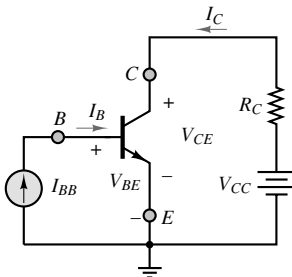
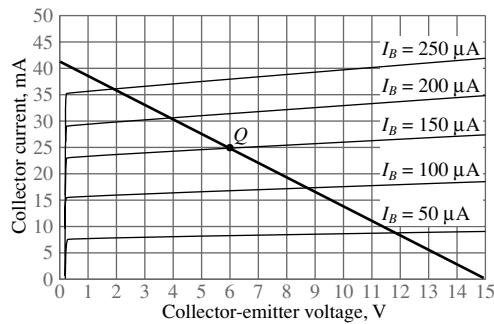
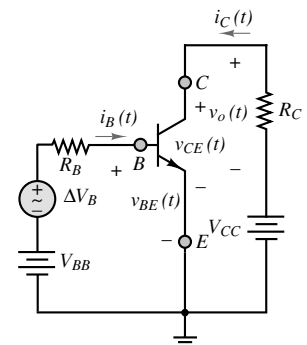
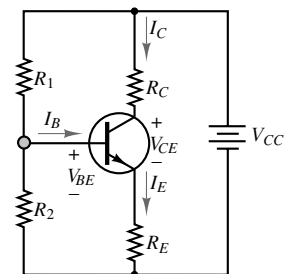

Figure 10.20 A simplified bias circuit for a BJT amplifier
Figure 10.21 Load-line analysis of a simplified BJT amplifier
Figure 10.25
Figure 10.28 Practical BJT self-bias DC circuit
The family of curves shown for the collector i - v characteristic in Figure 10.9(b) reflects the dependence of the collector current on the base current. For each value of the base current i_B , there exists a corresponding i_C - v_{CE} curve. Thus, by appropriately selecting the base current and collector current (or collector-emitter voltage), we can determine the operating point, or **Q point**, of the transistor. The Q point of a device is defined in terms of the **quiescent** (or **idle**) **currents** and **voltages** that are present at the terminals of the device when DC supplies are connected to it. The circuit of Figure 10.20 illustrates an ideal **DC bias circuit**, used to set the Q point of the BJT in the approximate center of the collector characteristic. The circuit shown in Figure 10.20 is not a practical DC bias circuit for a BJT amplifier, but it is very useful for the purpose of introducing the relevant concepts. A practical bias circuit is discussed later in this section.
Note the similarity of equation 10.6 to the load-line curves of Chapters 3 and 9. Equation 10.6 represents a line that intersects the I_C axis at $I_C = V_{CC}/R_C$ and the V_{CE} axis at $V_{CE} = V_{CC}$. The slope of the load line is $-1/R_C$. Since the base current I_B is equal to the source current I_{BB} , the operating point may be determined by noting that the load line intersects the entire collector family of curves. The intersection point at the curve that corresponds to the base current $I_B = I_{BB}$ constitutes the operating, or Q , point. The load line corresponding to the circuit of Figure 10.20 is shown in Figure 10.21, superimposed on the collector curves for the 2N3904 transistor. In Figure 10.21, $V_{CC} = 15$ V, $V_{CC}/R_C = 40$ mA, and $I_{BB} = 150$ μ A; thus, the Q point is determined by the intersection of the load line with the I_C - V_{CE} curve corresponding to a base current of 150 μ A.
$V_{BB} = 10\text{ V}$; $V_{CC} = 15\text{ V}$; $V_\gamma = 0.6\text{ V}$. The collector characteristic curves are shown in Figure 10.21.
The load line is shown in Figure 10.21; to determine the Q point, we need to determine which of the collector curves intersects the load line; that is, we need to know the base current. Applying KVL around the base circuit, and assuming that the BE junction is forward-biased (this results from the assumption that the transistor is in the active region), we get
With reference to the BJT amplifier of Figure 10.25 and to the collector characteristic curves of Figure 10.21, determine (1) the DC operating point of the BJT, (2) the nominal current gain β at the operating point, and (3) the AC voltage gain $A_V = \Delta V_o / \Delta V_B$.
Schematics, Diagrams, Circuits, and Given Data: $R_B = 10 \text{ k}\Omega$; $R_C = 375 \Omega$; $V_{BB} = 2.1 \text{ V}$; $V_{CC} = 15 \text{ V}$; $V_{\gamma} = 0.6 \text{ V}$. The collector characteristic curves are shown in Figure 10.21.
In discussing the DC biasing procedure for the BJT, we pointed out that the simple circuit of Figure 10.20 would not be a practical one to use in an application circuit. In fact, the more realistic circuit of Example 10.7 is also not a practical biasing circuit. The reasons for this statement are that two different supplies are required (V_{CC} and V_{BB})—a requirement that is not very practical—and that the resulting DC bias (operating) point is not very stable. This latter point may be made clearer by pointing out that the location of the operating point could vary significantly if, say, the current gain of the transistor β were to vary from device to device. A circuit that provides great improvement on both counts is shown in Figure 10.28. Observe, first, that the voltage supply V_{CC} appears across the pair of resistors R_1 and R_2 , and that therefore
Determine the DC bias point of the transistor in the circuit of Figure 10.28.